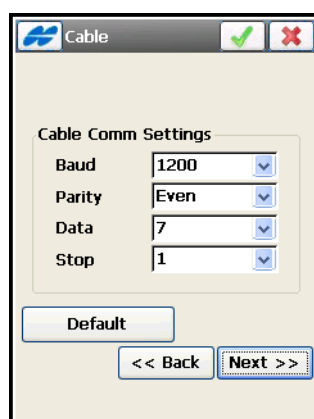

Figure 4-75. Cable
5. On the **Cable** screen, select the communication settings for the cable connection: Baud (baud rate), Parity, Data (number of the data bits), and Stop (number of the stop bits) and tap the **Next** button (Figure 4-75).